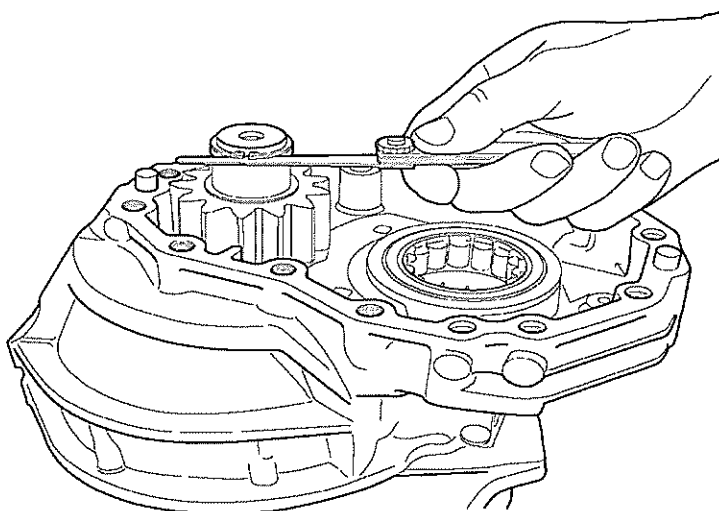

Fig 23 Measuring clearance between drive shaft circlip and pinion gear
29.9 Refit circlip to drive shaft and measure clearance between circlip and pinion gear wheel (see Fig 23).